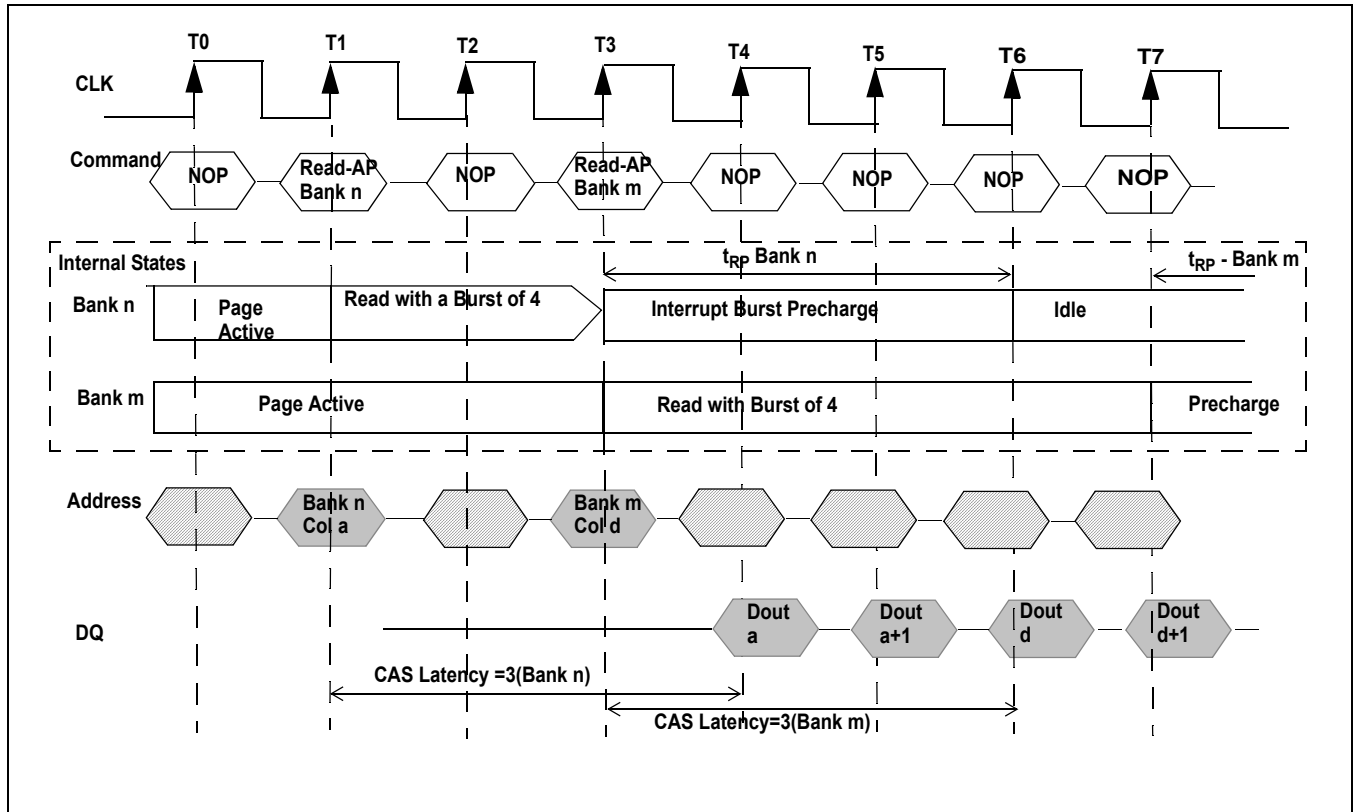

Figure 34. Read with Auto Precharge Interrupted by a Read(CAS Latency =3)
1. Interrupted by a Read (with or without auto precharge): A read to bank m will interrupt a Read on bank n, CAS latency later. The precharge to bank n will begin when the Read to bank m is registered. (Figure 34.)